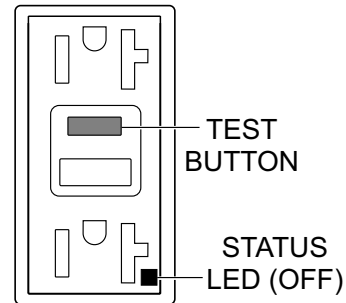

Figure 94. GFCI Receptacle (OFF)
4. Press the **TEST** button (Figure 94) on the GFCI receptacle and verify that the status LED turns **OFF**.